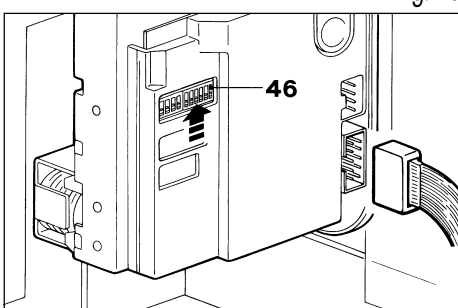

Fig. 17
- Connect the flat cable to the coiner (Fig. 17).
- To prevent the coiner from accepting a type of programmed coin, push up the corresponding dip-switch (46) (Fig. 17).